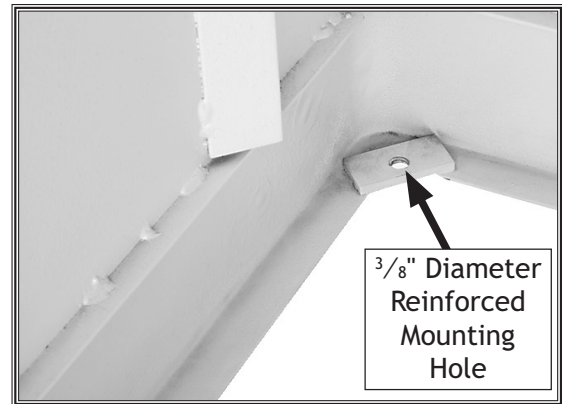

Figure 7. Foot installation.
2. Next, thread each bolt into the reinforced holes shown in **Figure 7**, and then thread the four remaining  $\frac{3}{8}$ " x 16 hex nuts onto each bolt to lock the feet in place.